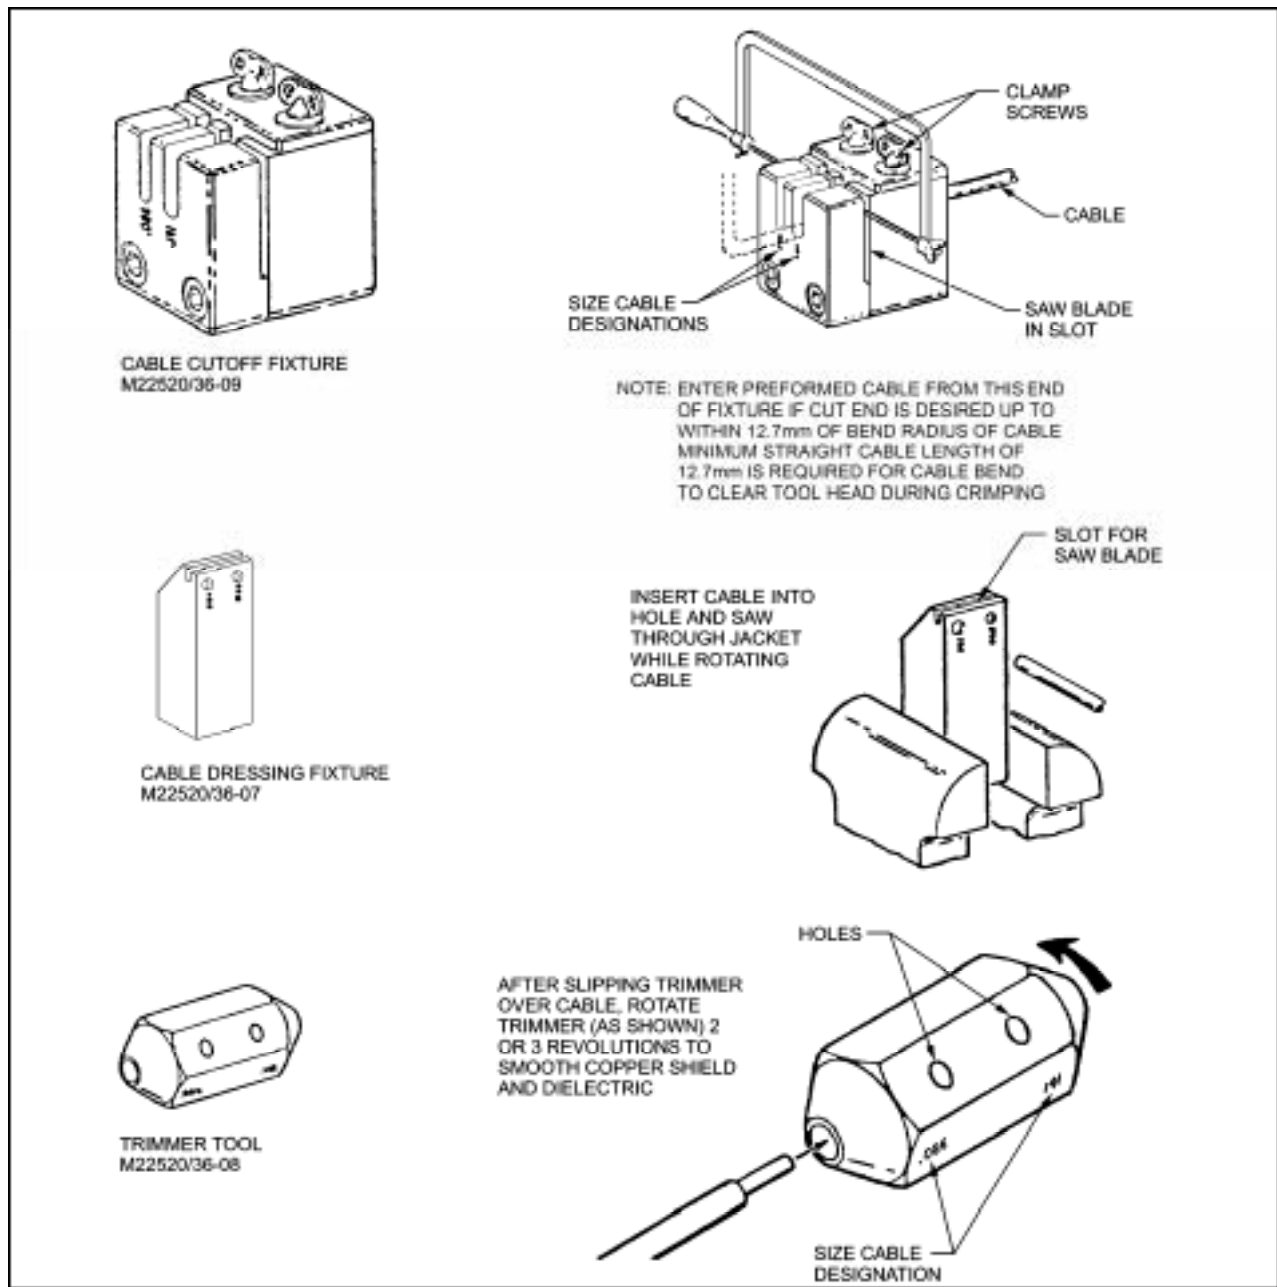
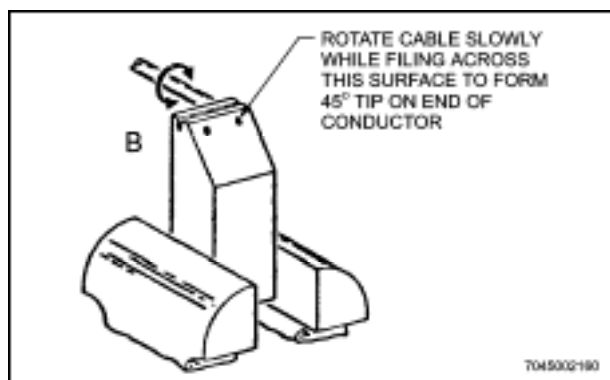

Figure 12-53 Tooling to Prepare Semi-rigid Cable
Figure 12-54 Pointing the Cable End
42. Before terminating the SMA connectors to the semi-rigid cable, the cable must be prepared using the components of the preparation tooling listed in Figure 12-53.
- b. Insert end of cable into cable size-designated hole (see Figure 12-53).
- f. Using the trimmer tool, smooth copper shield and dielectric (Figure 12-53). This is accomplished as follows:
- (1) Slip correct end of tool over exposed end of cable.
- (2) Push lightly against cable while slowly revolving tool clockwise two or three times.
- (3) Remove tool and clean any chips from end of cable.
- g. Re-insert cable into cable dressing fixture for pointing. Keep pressure against fixture and rotate cable slowly while filing on 45° surface (Figure 12-54) with a small pillar file or mill file. Continue filing until conductor offers no resistance to the file.